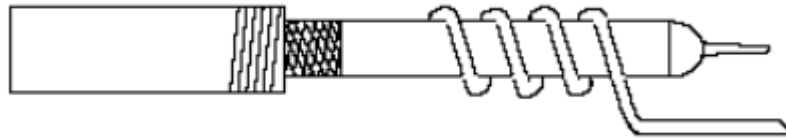

Figure 2. Recommended probe configuration.
- Use a balanced impedance probe tip across C_{OUT} to measure V_{OUT} Ripple to avoid noise coupling into the probe ground lead. The recommended probe configuration is shown in Figure 2.